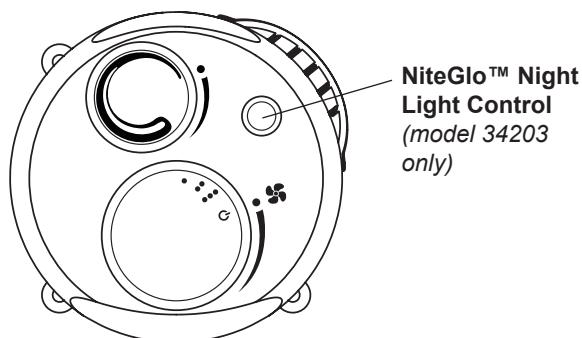

Figure 11
- 3. NiteGlo™ Night Light Control (model 34203 only):** Turns the night light 'ON' and 'OFF'. The night light can be turned on even if the humidifier fan is turned off. See figure 11.